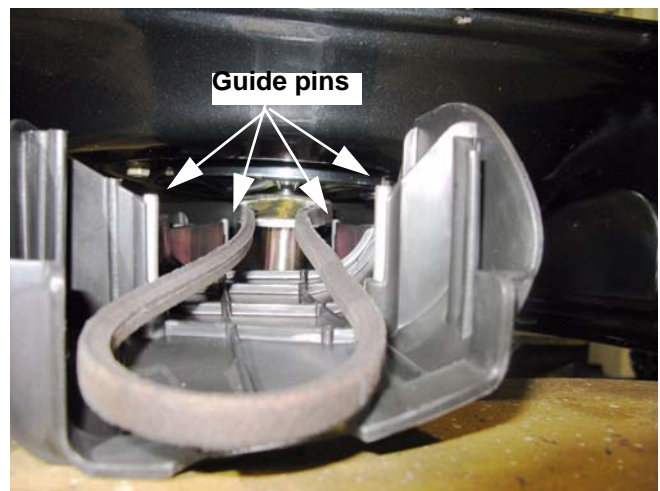

Figure 4.62
- On installation, confirm that the belt and lower belt cover are properly positioned as the new rear baffle goes in. See Figure 4.62.